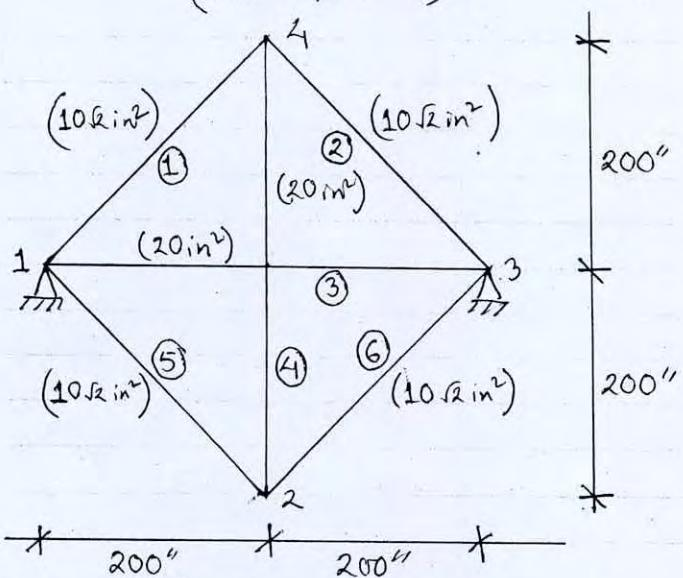

Fig. 13 (for Q.no.13)
13. Determine the coordinate matrix, connectivity matrix, member property matrix, member stiffness matrices and global stiffness matrix of the truss shown in Fig. 13. Member areas are given in parentheses. Given: $E = 30000 \text{ ksi}$. (21)